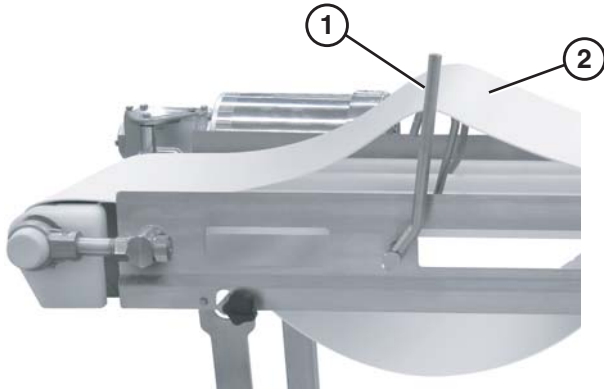

Figure 38
3. Use the lifter handle (Figure 38, item 1) to raise the belt (Figure 38, item 2).